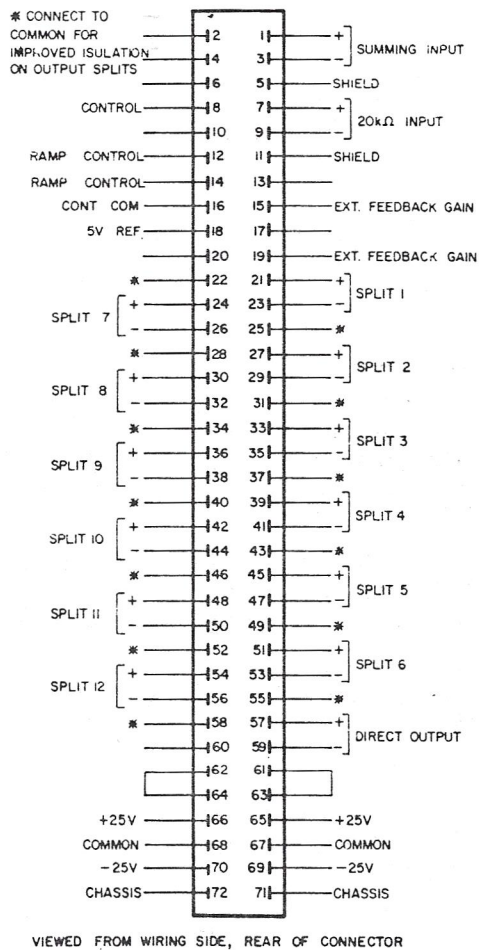

Figure 3-1 Connector Wiring
- 3.04 Refer to Figure 3-1 for detailed terminal numbers.
- 3.09 Where it is important that the outputs be in phase with the input, the correct phasing is indicated on Figure 3-1 by a +, which indicates the "high" side of the line.
- 3.10 Ground the audio shields only at one end of the run, preferably at the AT310 connector. The input shield should be connected to pin 5 and the outputs shields to the ground bus, pins 67 & 68. Alternately, the output shields can be wired to the terminals designated with an asterisk on Figure 3-1. If this is done, these terminals must be connected to the common, ground, bus.
- 3.11 When more than twelve outputs are required, up to ten additional, external outputs may be wired to the direct output. A 300 ohm, $\frac{1}{4}$ Watt, $\pm 5\%$ isolating resistor should be used in each side of each output. Refer to Figure 3-1 for the proper pin numbers and phasing